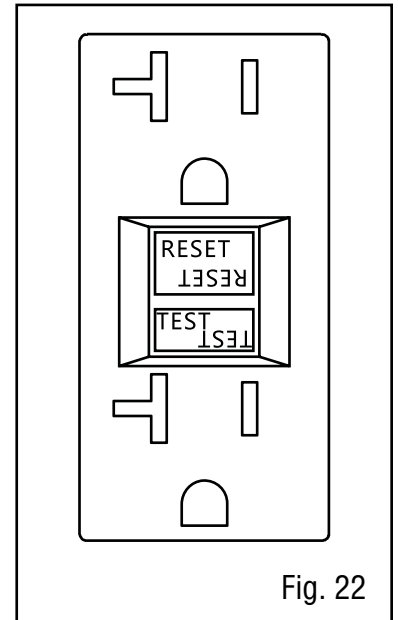

Fig. 22
5. Measure the plug gap with a spark plug gap gauge. The gap should be 0.7 to 0.8 mm (0.028-0.031 in.) (Fig. 22). Carefully adjust the gap if necessary.
Test the GFCI outlet monthly. The GFCI outlet has two buttons between the outlets (refer to Fig. 22):
2. Press the RESET button on the GFCI outlet (Fig. 22).